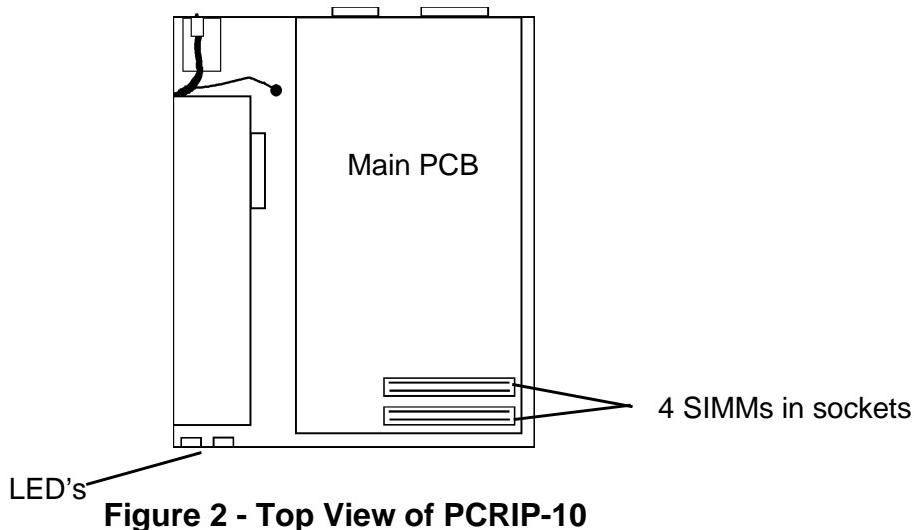

Figure 2 - Top View of PC RIP-10
- With the chassis oriented with the 2 LED's facing you, the 4 SIMMs to be replaced are located directly to your right. (See Figure 2.) Main PCB